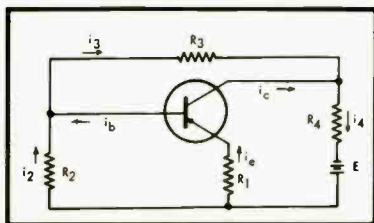

Fig. 1. Circuit used in example. See text.
In the woofer illustrated in Fig. 1, a remarkable increase in compliance has been obtained by discarding the usual corrugations at the rim of the cone. Instead the piston portion of the cone is suspended from a ring of special plastic foam which has great flexibility and allows large axial motion before mechanical restriction is encountered. Fundamental resonance has been set at 24 cps which represents the lowest useful frequency without sacrificing stability. Further reduction of fundamental resonance would probably increase cost. Laboratory models have been constructed with a resonant frequency as low as 4 cps, but this is more interesting experimentally than for general use.
Consider the amplifier stage shown in Fig. 1. Only the d.c. components are shown—for instance, capacitors are omitted, since they will pass no d.c. The resistors  $R_1$ ,  $R_2$ ,  $R_3$ , and  $R_4$  may be in any form—they may represent the resistance of transformer windings, for instance.
Again referring to Fig. 1, we have the following conditions imposed by the circuit:
which assumes that the collector current is independent of the collector voltage. In Eqs. (1) to (6), the currents are as labeled in Fig. 1. These six equations are sufficient to eliminate the five unwanted variables  $i_b$ ,  $i_2$ ,  $i_3$ ,  $i_4$ , and  $i_e$ , leaving one equation relating  $i_c$ ,  $i_{co}$ ,  $\alpha$ , and the various circuit constants  $R_1$ ,  $R_2$ ,  $R_3$ ,  $R_4$ , and  $E$ . This relation, setting  $i_e$  all by itself on one side, is: